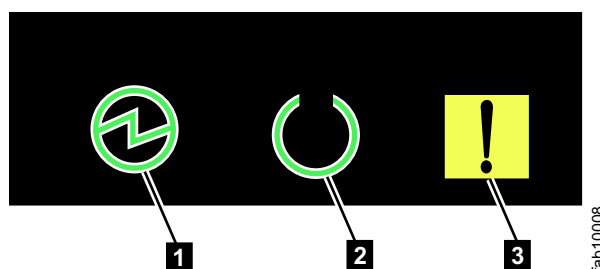

Figure 18. Power LEDs on a node canister
3. Wait for the power LEDs on all node canisters in all control enclosures to blink at 1 Hz, indicating that the shutdown operation completed, as shown in Figure 18.